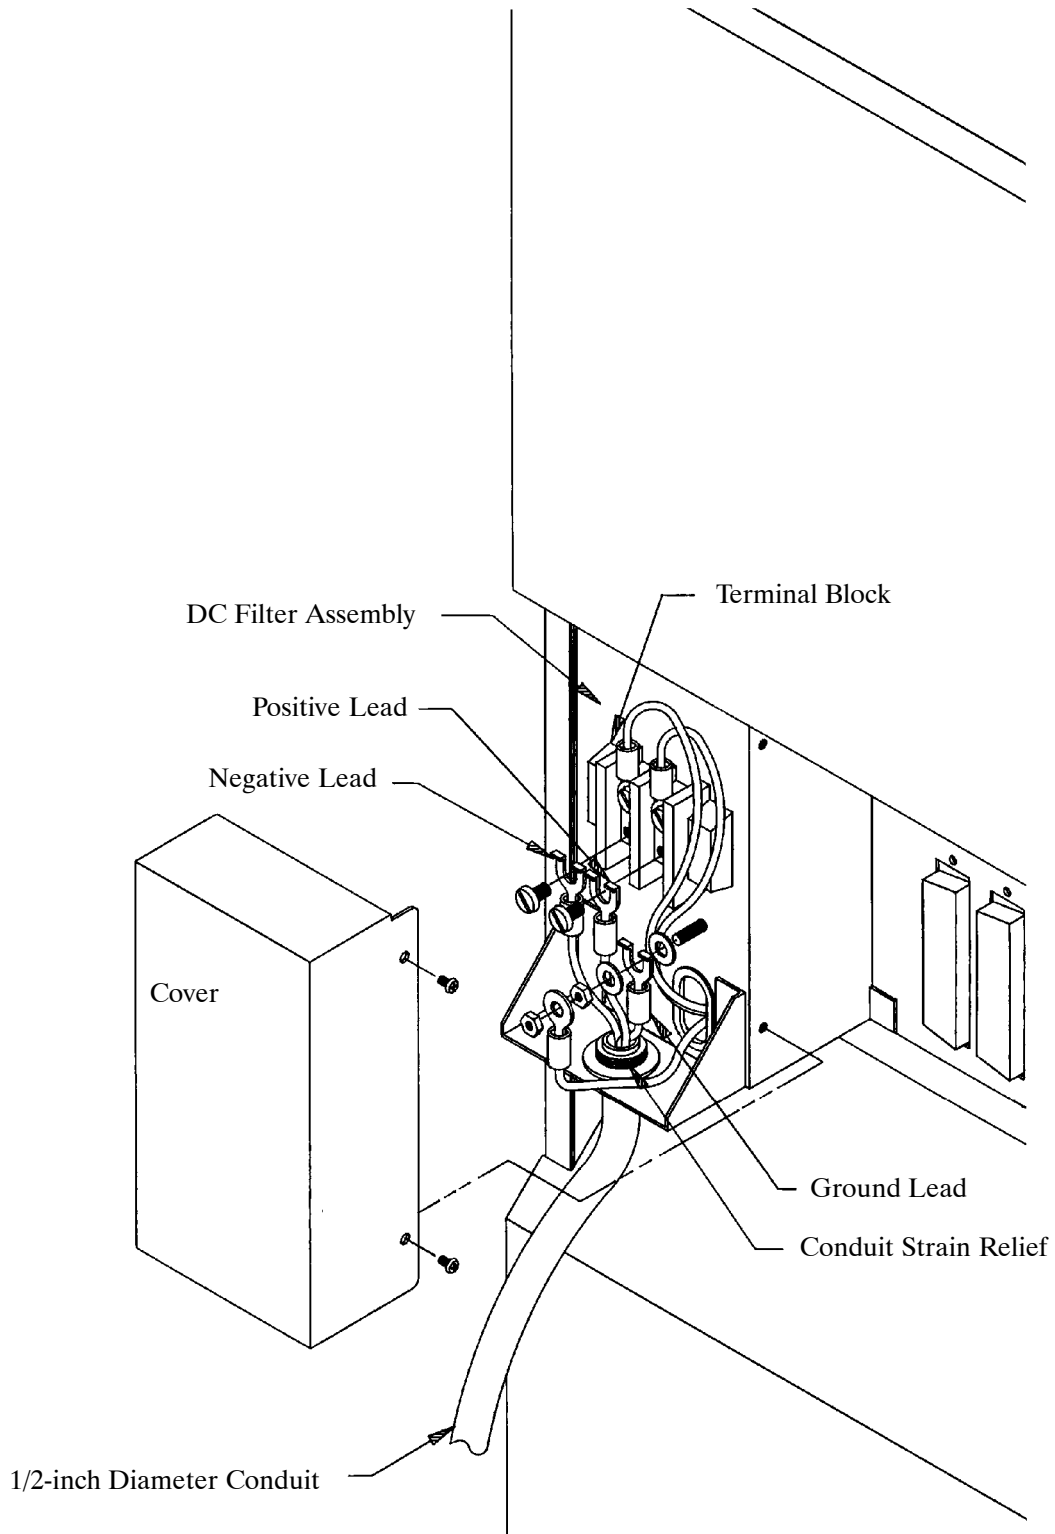
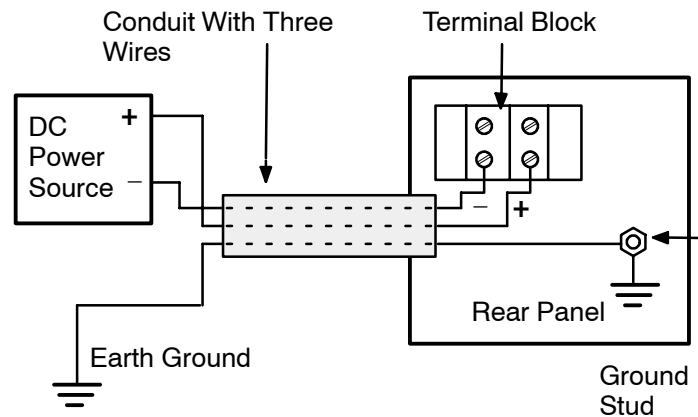

Figure 4-4 Octel 300 Direct-Connect Installation
Figure 4-5 Diagram of the Field Wiring for -48-Vdc Powered Octel 200
4. Remove the two screws attaching the cover to the DC filter assembly, as shown in Figure 4-3 (Octel 200) or Figure 4-4 (Octel 300) and remove the cover.
5. Connect the Octel 200/300 to the power source as shown in Figure 4-3 or Figure 4-4 and Figure 4-5. Connect the positive pole of the power source to the terminal-block position marked “+” and the negative pole to the position marked “–”.
6. Connect the earth-ground conductor from a suitable building ground to the ground stud next to the terminal block on the cabinet (refer to Figure 4-3 or Figure 4-4 and Figure 4-5).